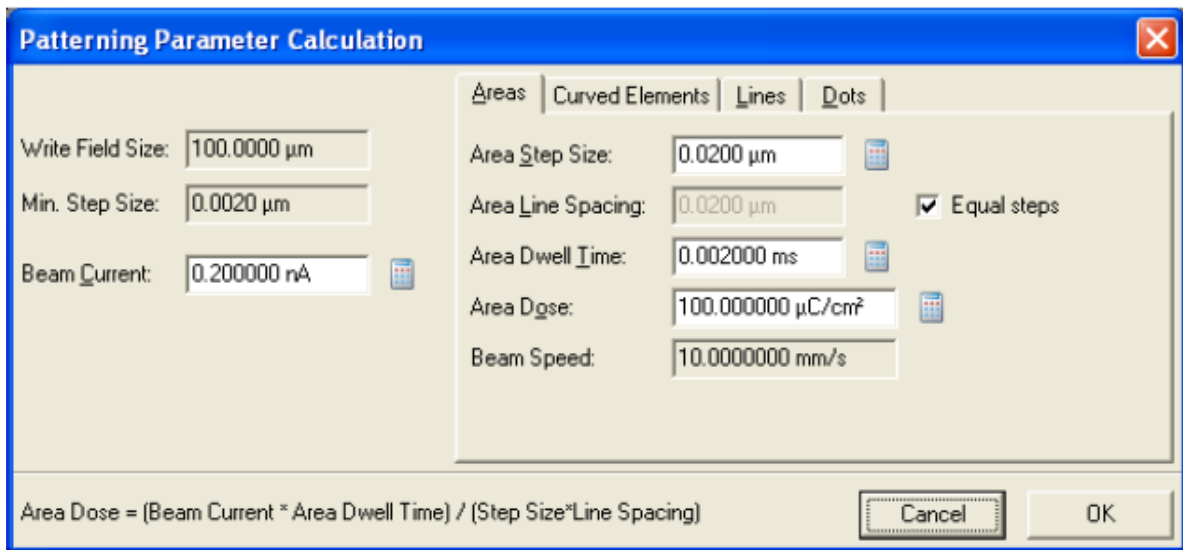

Figure 25: Pattern Parameter Calculator.
2. In the calculation window check that the beam current measured earlier appears in the beam current field (see figure 25). Then choose an area step size (20nm to get you started, 2nm is minimum for the 100 micron writefield) and an area dose (100 $\mu\text{C}/\text{cm}^2$ is a good start for at 10keV and a thin PMMA layer). Click on the calculator icon next to the Area Dwell time field, which calculates the correct dwell time for the chosen parameters, so that the equation displayed at the bottom of the window is satisfied and the 'Areas' heading turns from red to black. Perform the same actions for the other element types (curved elements, lines, etc) depending on which ones you use in your pattern file. For details check the Software Operation Manual.